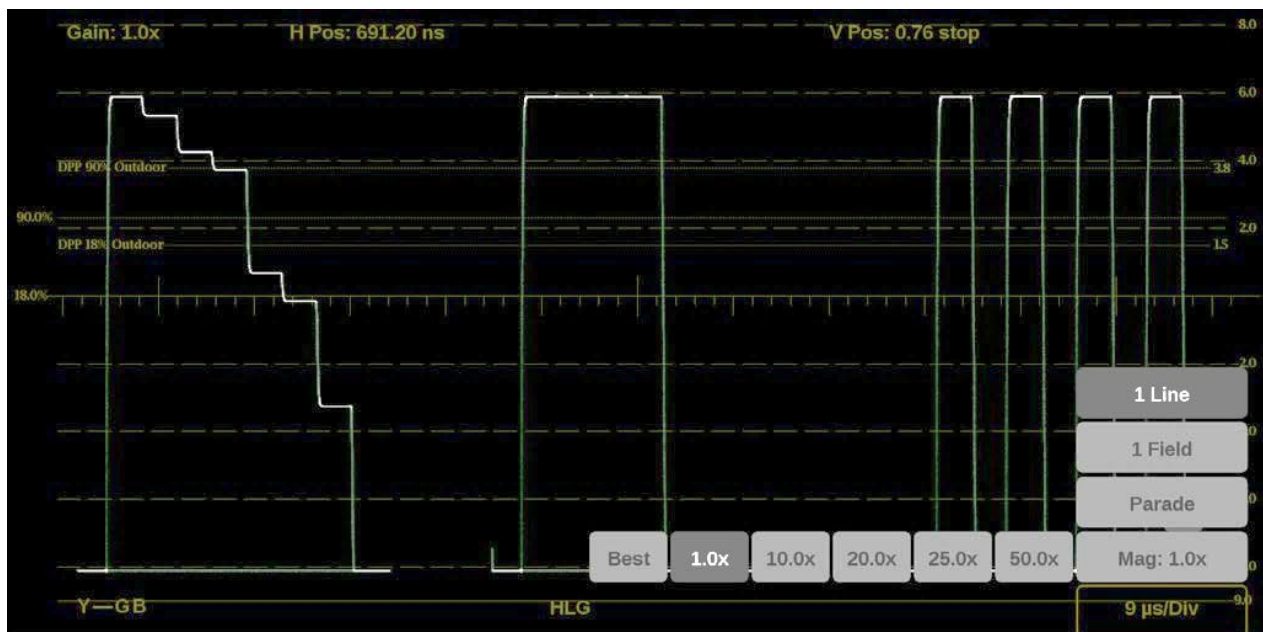

Figure 201: Stop Display on-screen tools – display format
1. Select the button in the bottom right corner of the application to expand the available display format options. (See Figure 201.)